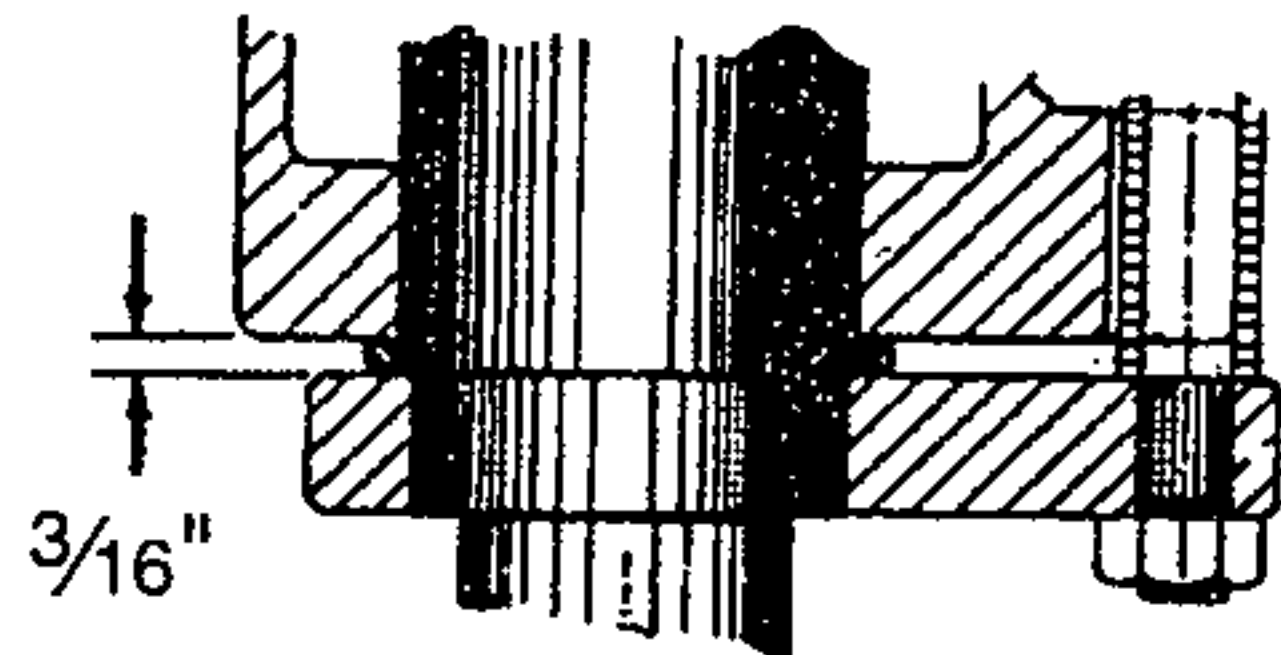
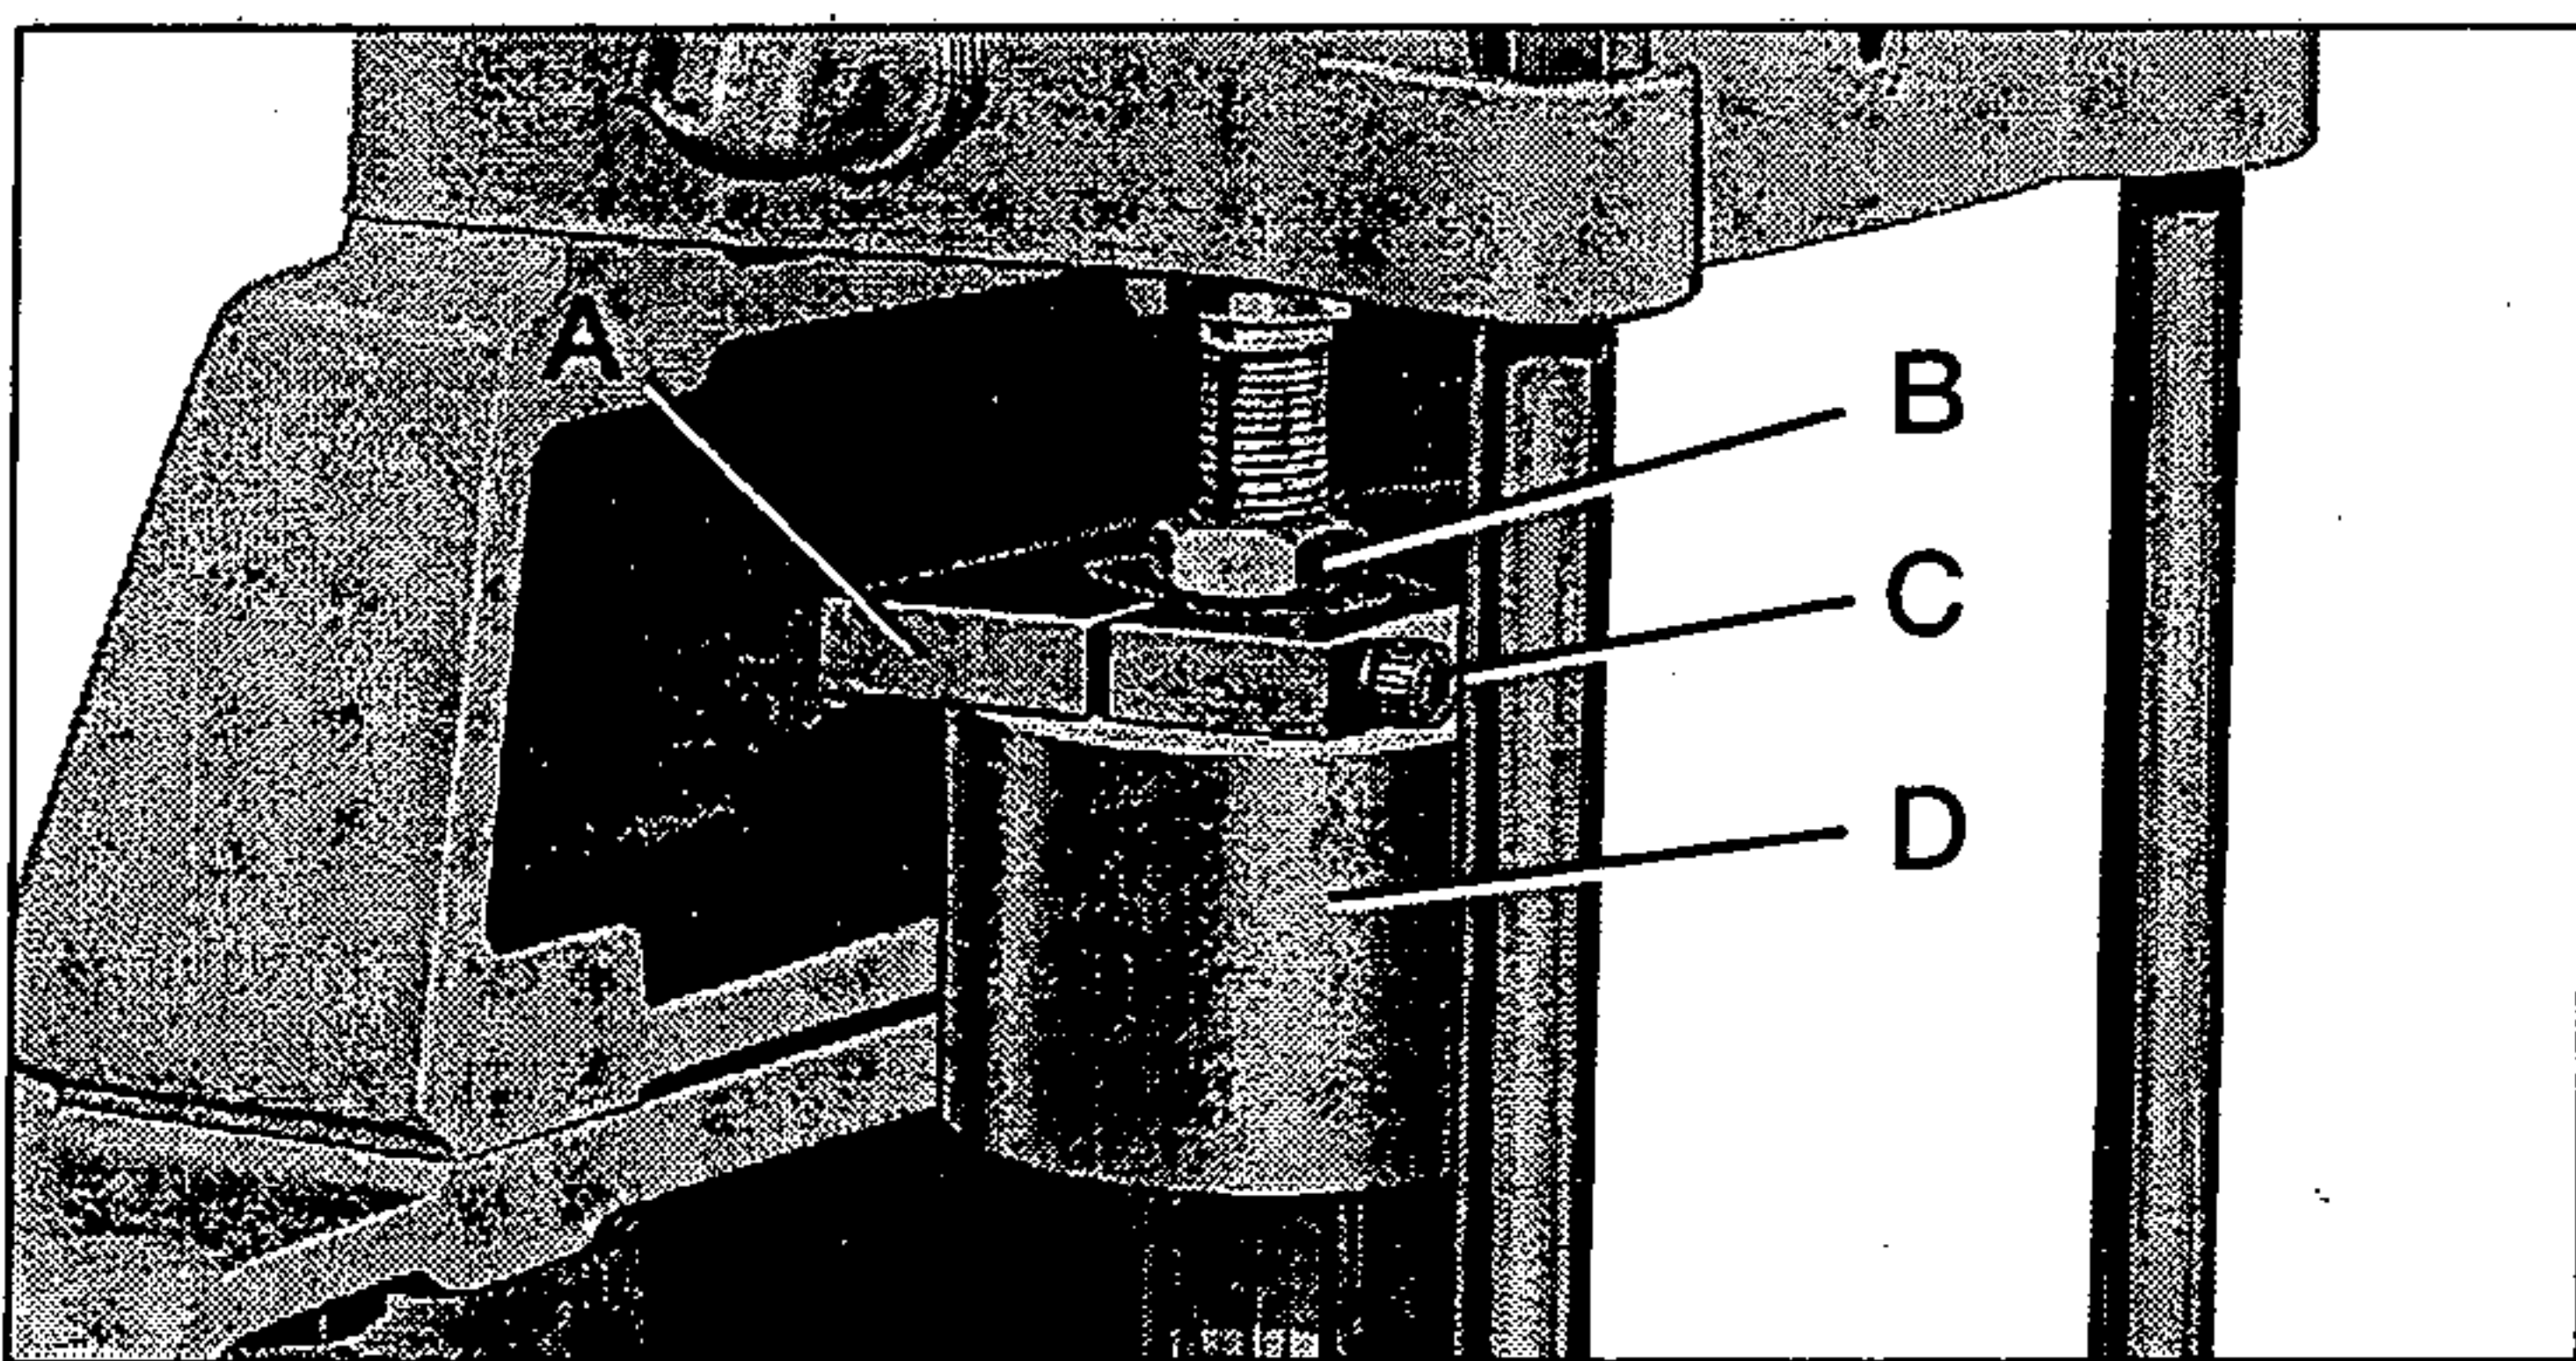

Figure 6
Figure 7
IMPORTANT: Check distance between depth stop and bottom of head - figure 6.
14. With piston rod at top of stroke, turn bearing housing (D, fig. 7) on piston rod until distance between head and bracket is $\frac{3}{16}$ ". (See Figure 6)
15. Lock piston rod mounting arm (A) in place with arm screw (C).
16. Tighten lock nut (B) against bearing housing.